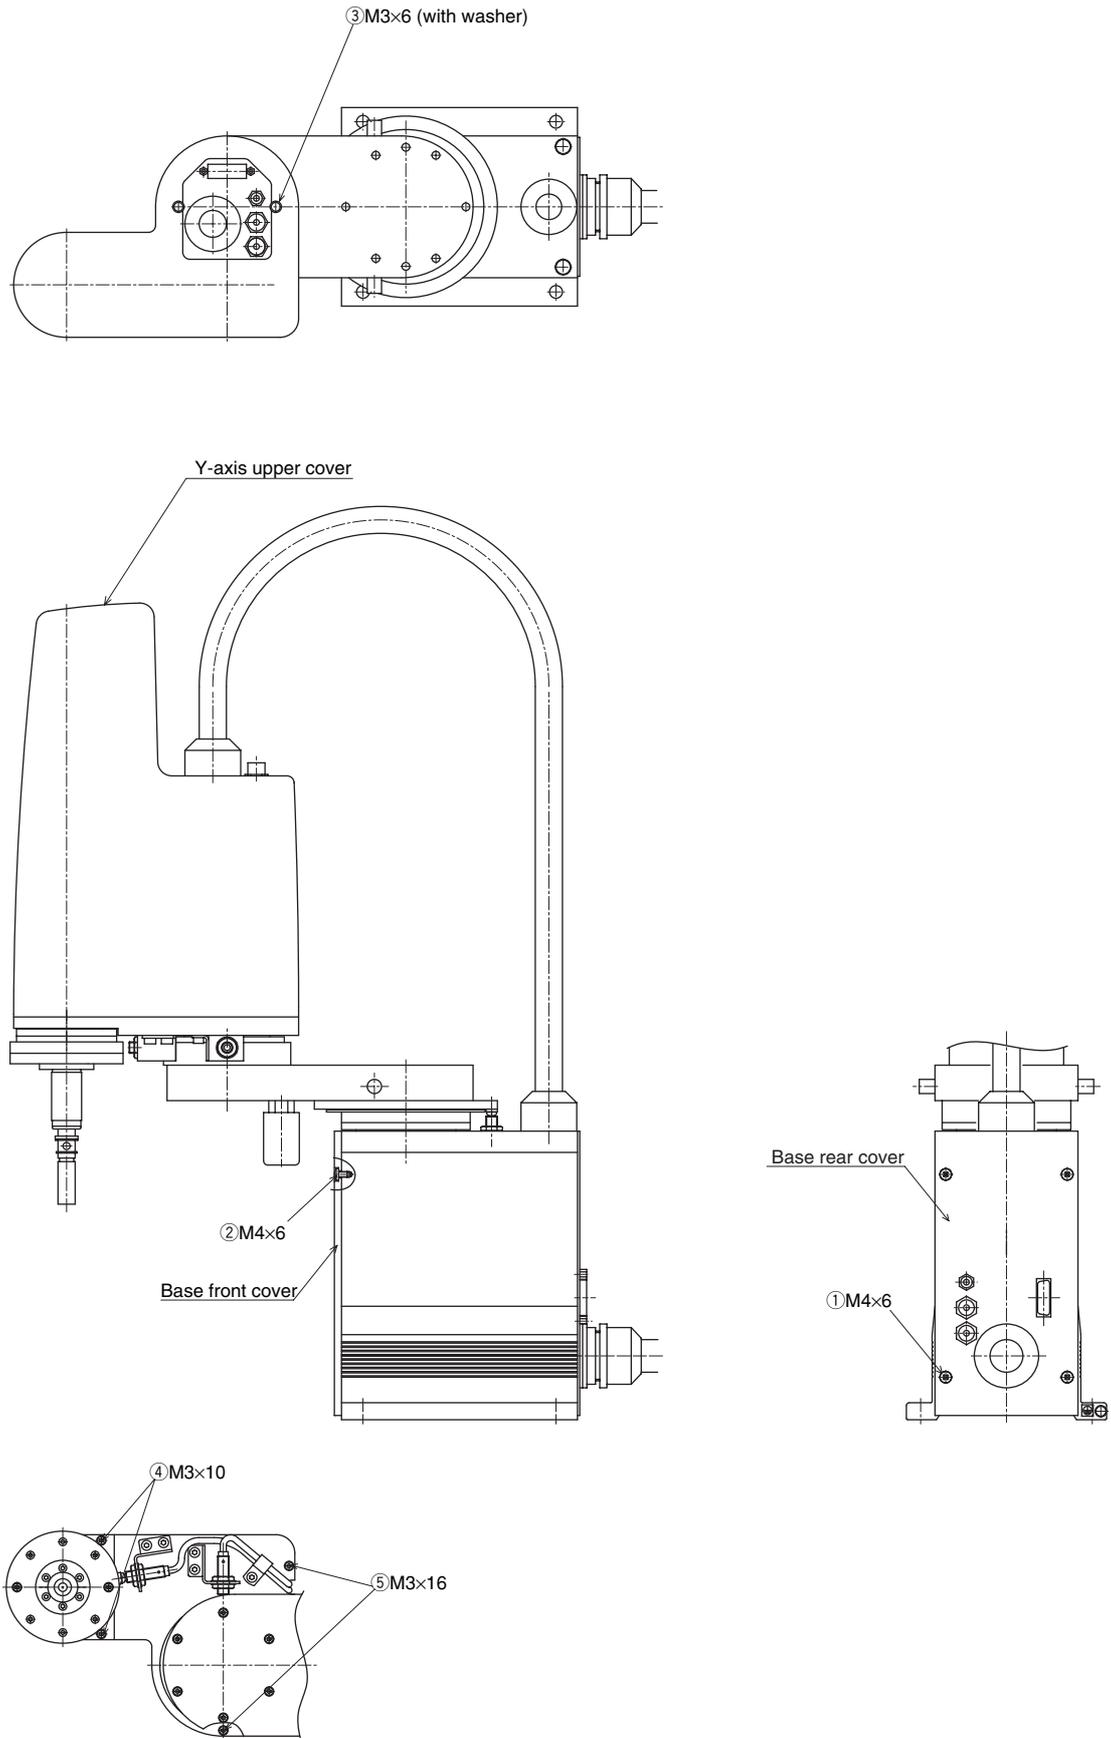
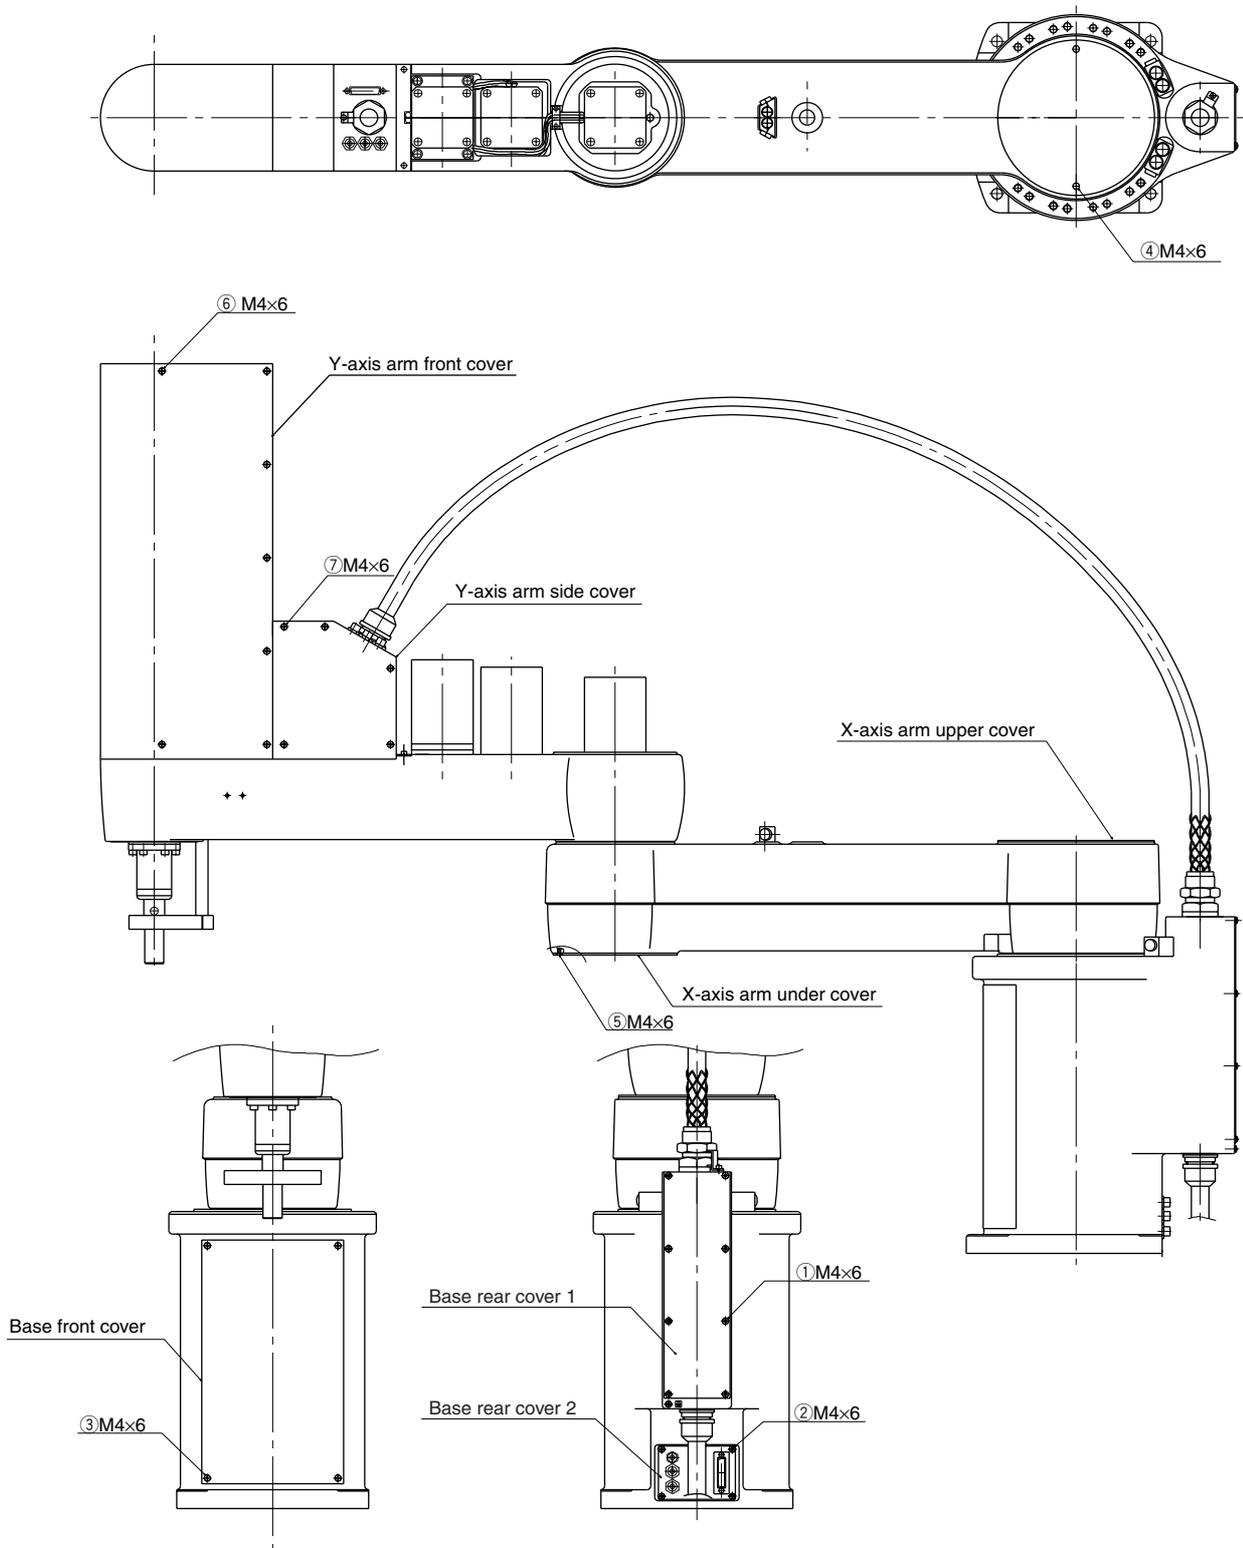

Fig. 4-25
Fig. 4-28
- 5) Remove the covers while referring to Fig. 4-25 to Fig. 4-28.
**Table 4-5 YK250X(H), YK350X(H), YK400X(H) (See Fig. 4-25)**
**Table 4-8 YK1200X (See Fig. 4-28)**